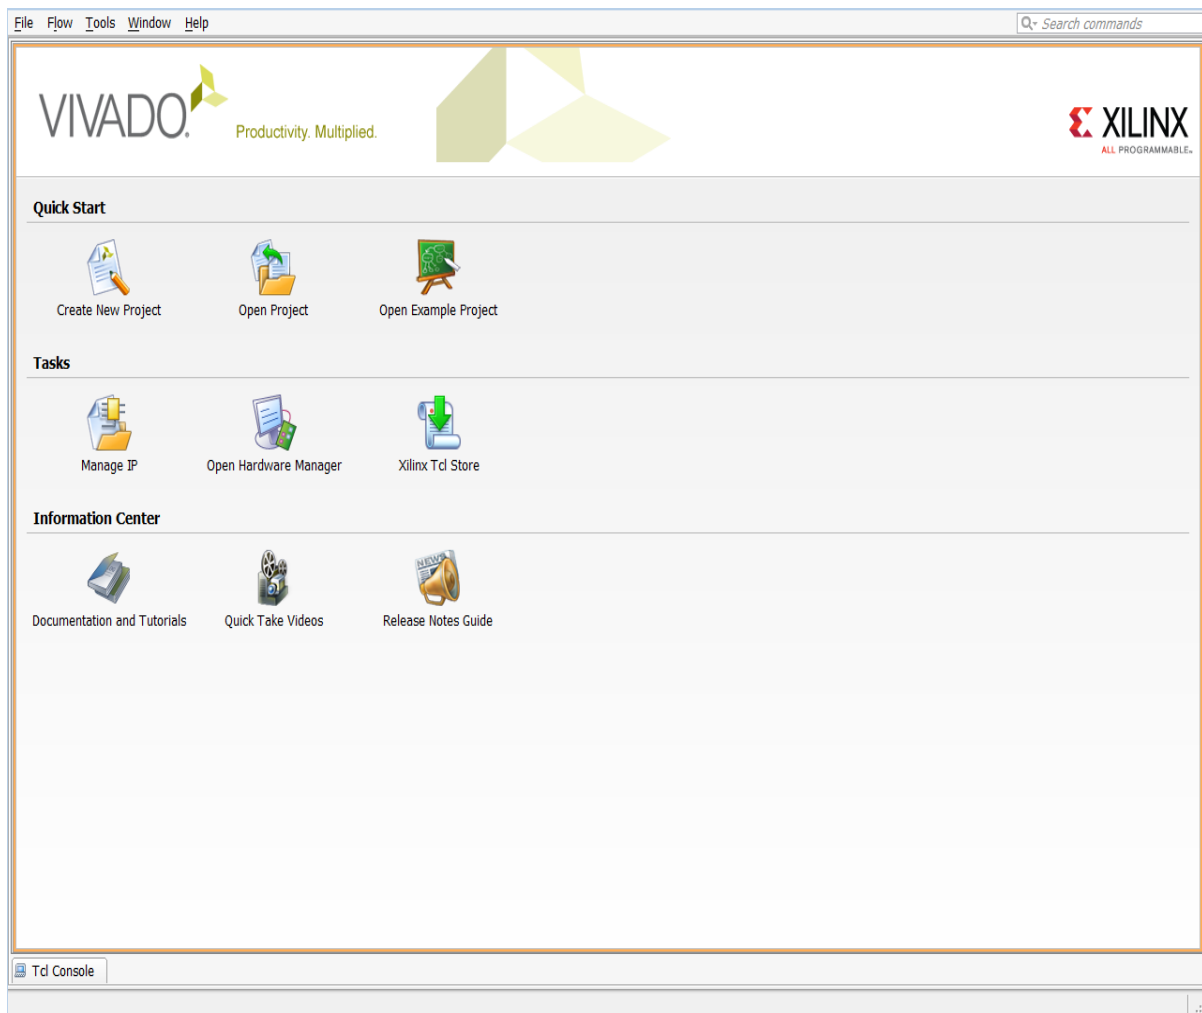

Figure 10-3: Vivado Welcome Screen
2. From the Welcome screen, click **Create New Project** (Figure 10-3).